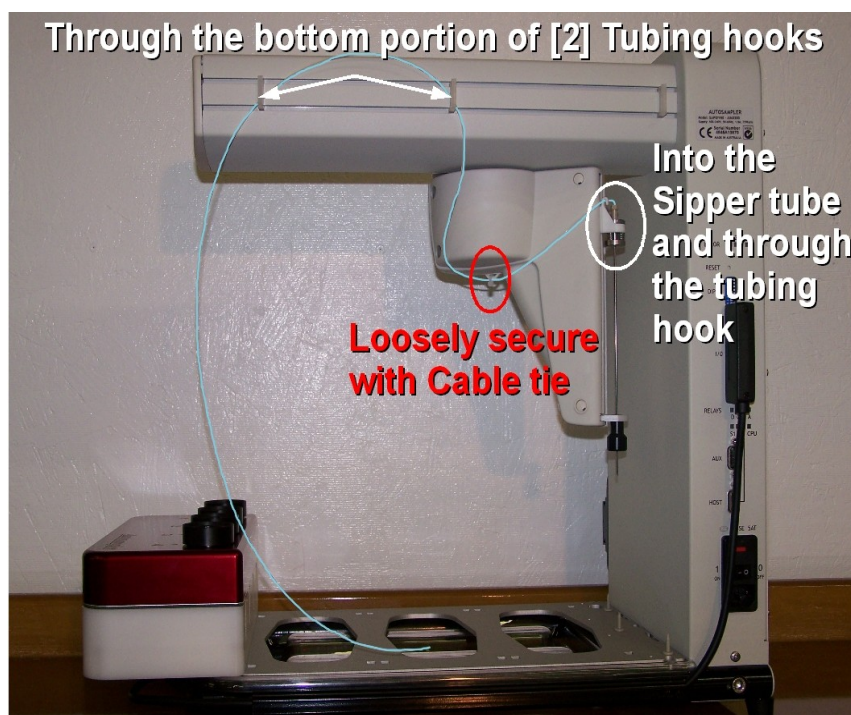

Figure 1: Routing diagram for the Autosampler Sampleline.
Note: The blue highlighting in *Figure 1* has been added to the picture for clarification; the *Sampleline* provided is milky in color.
- Route the rest of the tubing into the bottom portion of the [2] *Tubing Clips* as shown in **Figure 1**. Rest the remaining tubing onto the *Location Mat*.